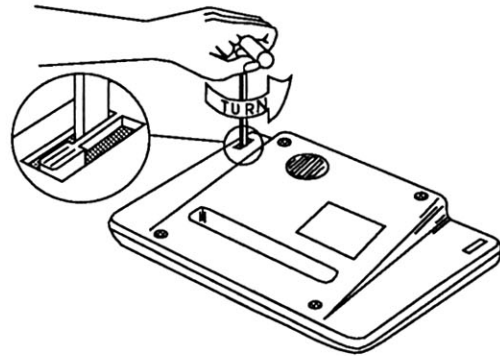

Figure 3-2: Unlocking Case (left side)
Step 2 Place the AlphaMate upside-down on a work table (see figure 3-2) and insert the T-handle tool (part number DNP-12511, supplied with the AlphaMate) as illustrated in the figure (the tool must be inserted as far as it will go into the smaller outermost slot).